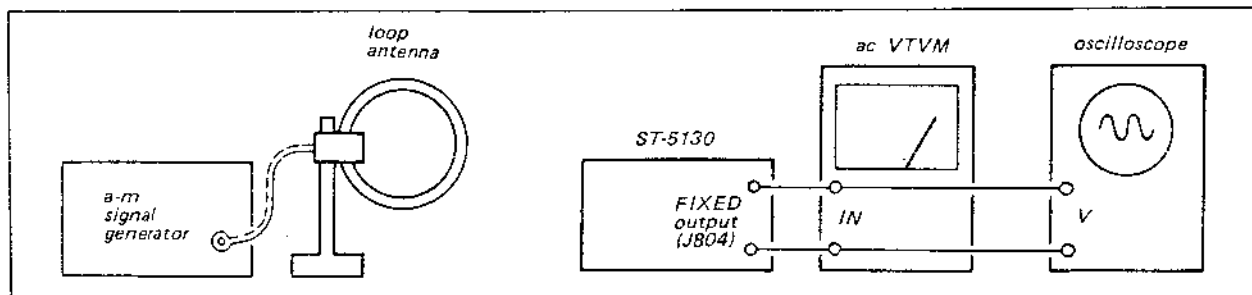

Fig. 3-10. A-m frequency coverage and tracking adjustment
1. With the equipment connected as shown in Fig. 3-10, feed a following signal to the AM bar antenna.
Connect the input cable of ac VTVM or oscilloscope to the output jack as shown in Fig. 3-10.
With the equipment connected as shown in Fig. 3-10 follow the procedures given in Table 3-4 when performing this alignment with an a-m signal generator.